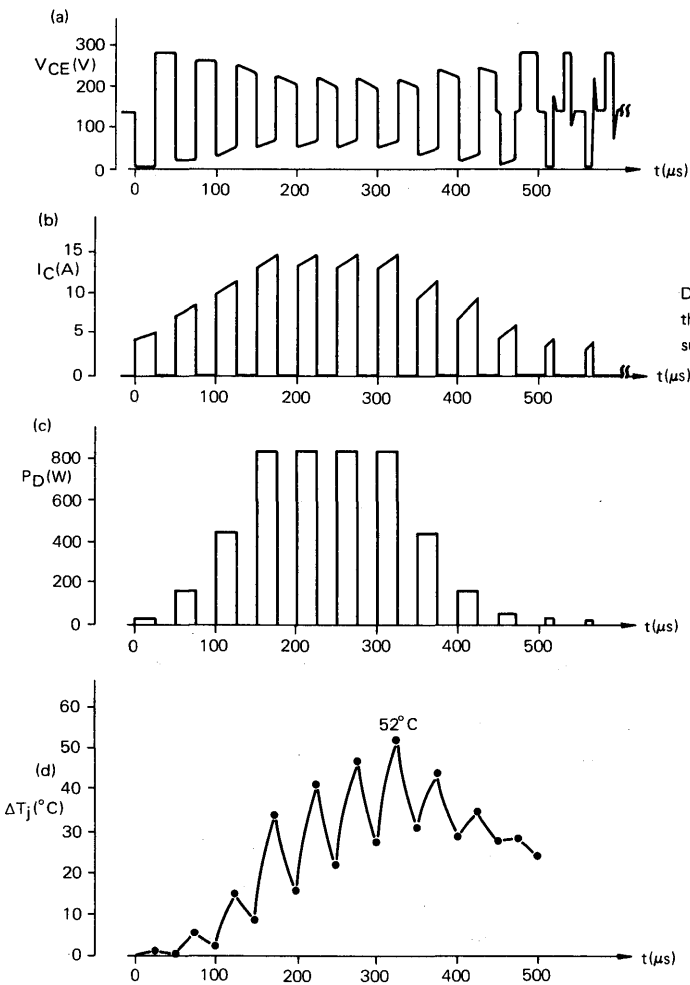

Fig. 11 Example of the application of a Transitory Overload.
Fig. 11 shows an example of such transitory overload, and the method described in 4-1 is employed to calculate the junction temperature rise. The result of calculation shows that the maximum value of the temperature rise of the junction is approximately 52°C from the case.
Now, when the overloaded state in the example of Fig. 11 continues for more than 1ms, the application of equation (1) becomes difficult.